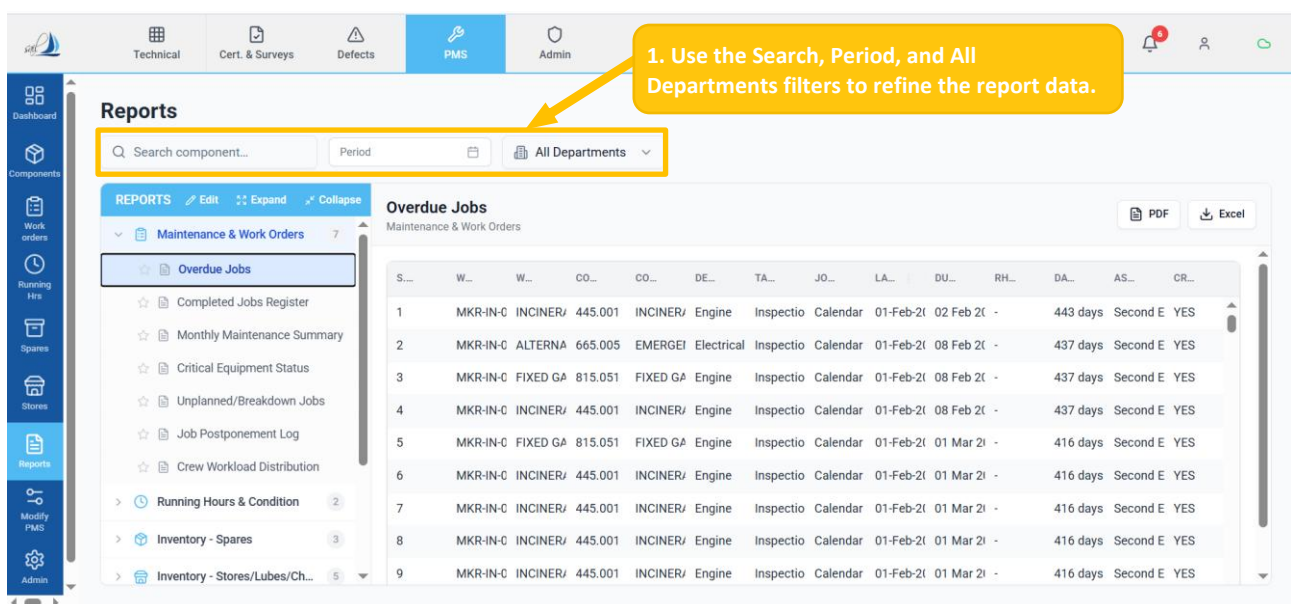

Figure 68
- Use the Search field to locate specific components. (Ref Figure 68)
- Select the desired Period (Year/Quarter/Month or Date Range), then click Apply to view filtered results. (Ref Figure 68)
- Choose a department from the All Departments dropdown. (Ref Figure 68)